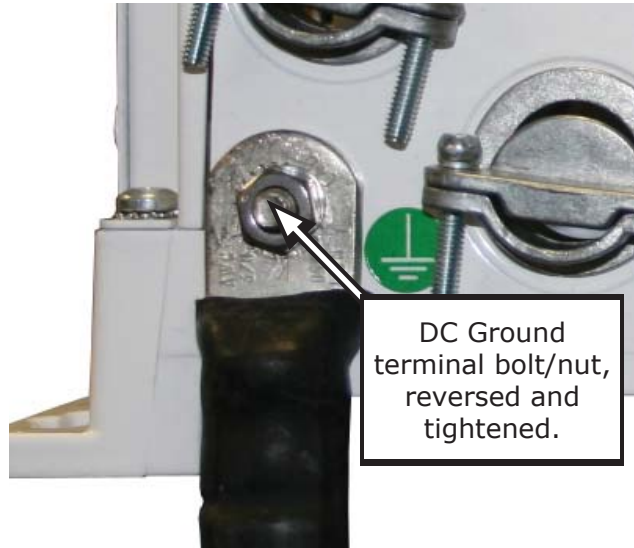

Figure 2-13, Connecting a Large DC Ground Wire
4. Reverse the removed bolt and place it back in the chassis hole to attach a correctly sized ground cable with a ring terminal to the inverter's chassis as shown in Figure 2-13.